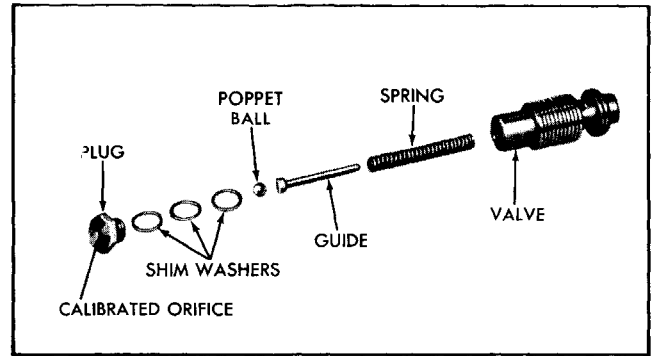

Fig. 9-51 Flow Control Valve—Exploded View
8. Disassemble flow control and relief valve, maintaining pressure on spring loaded plug to prevent loss of poppet ball. Use care not to score ground surfaces of flow control valve (Fig. 9-51).
10. Assemble flow control and relief valve (Fig. 9-51). Be sure to install all shim washers which were originally used, as altering shim thickness will change relief pressure.